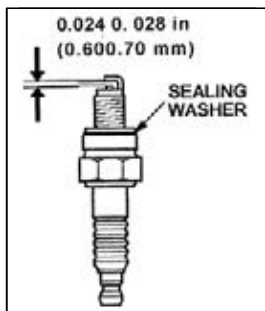

FIG.15
10.3 AIR CLEANER SERVICE – FIGS. 15 – 17